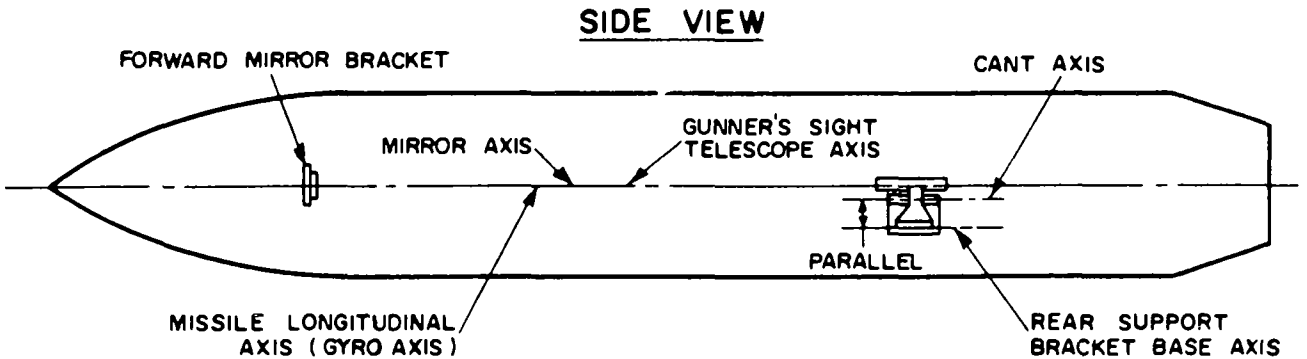
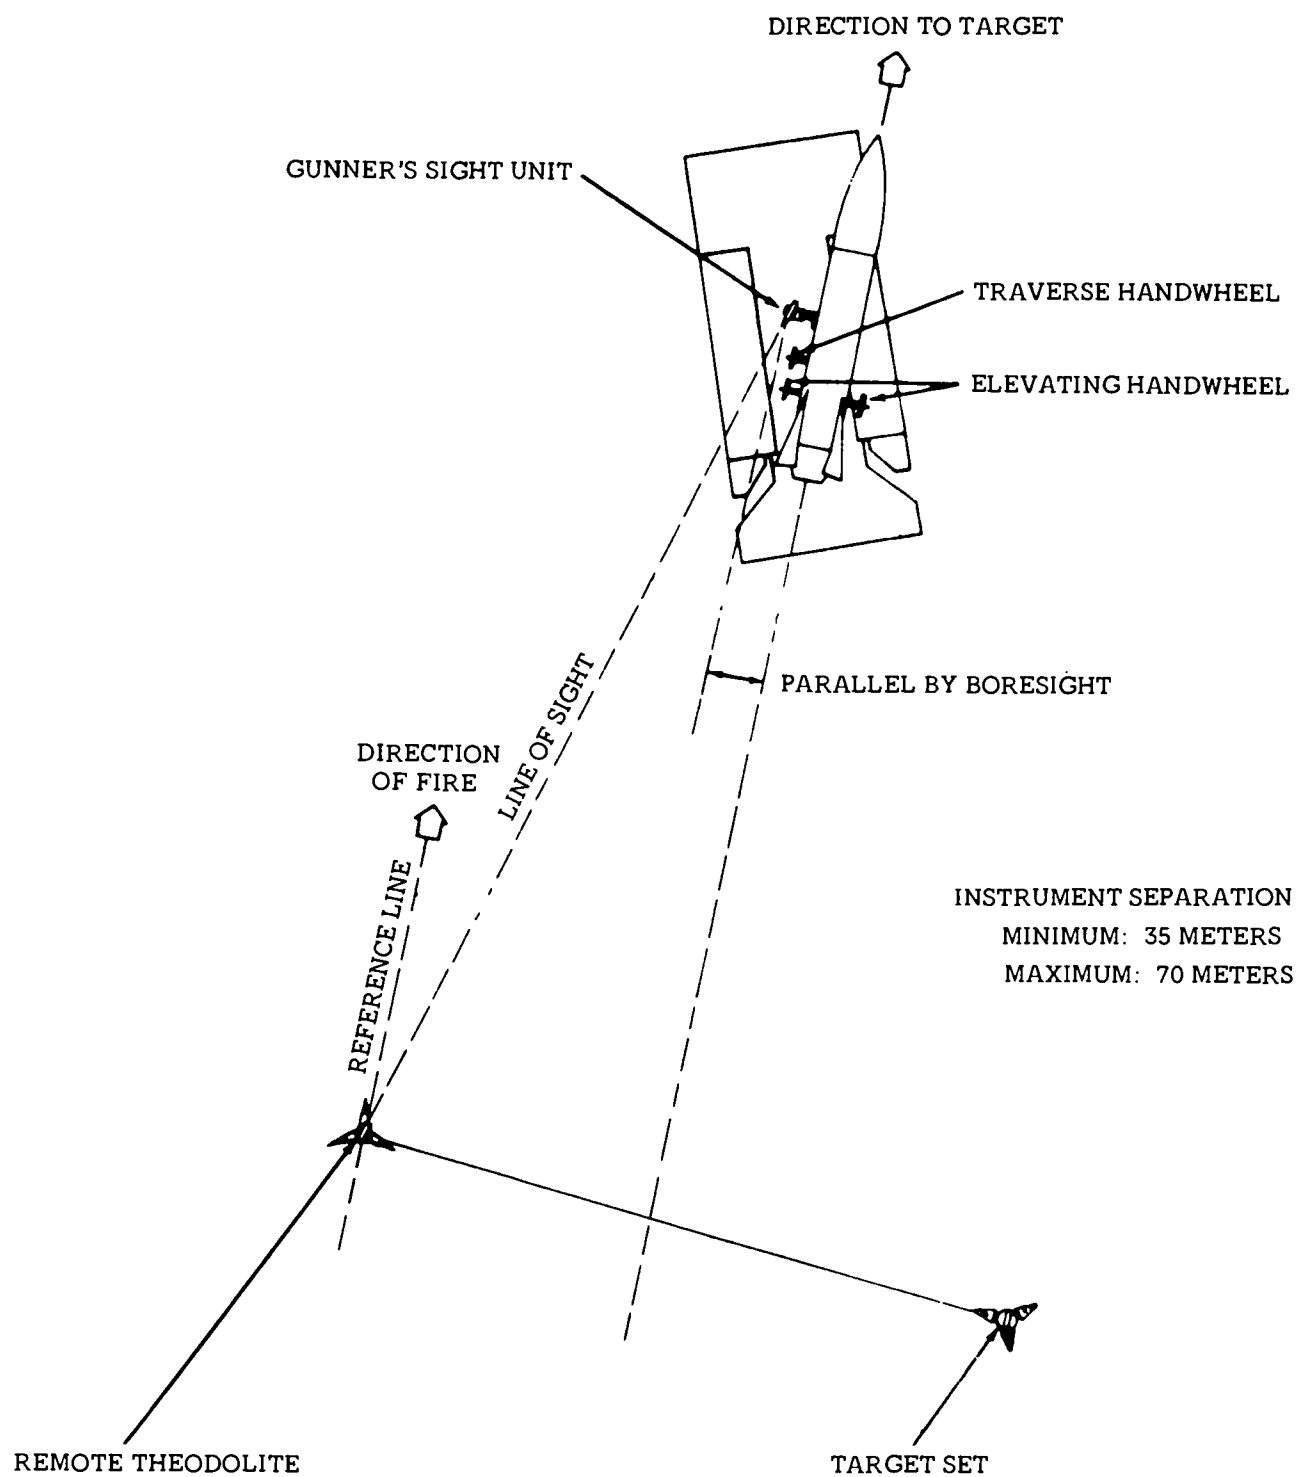
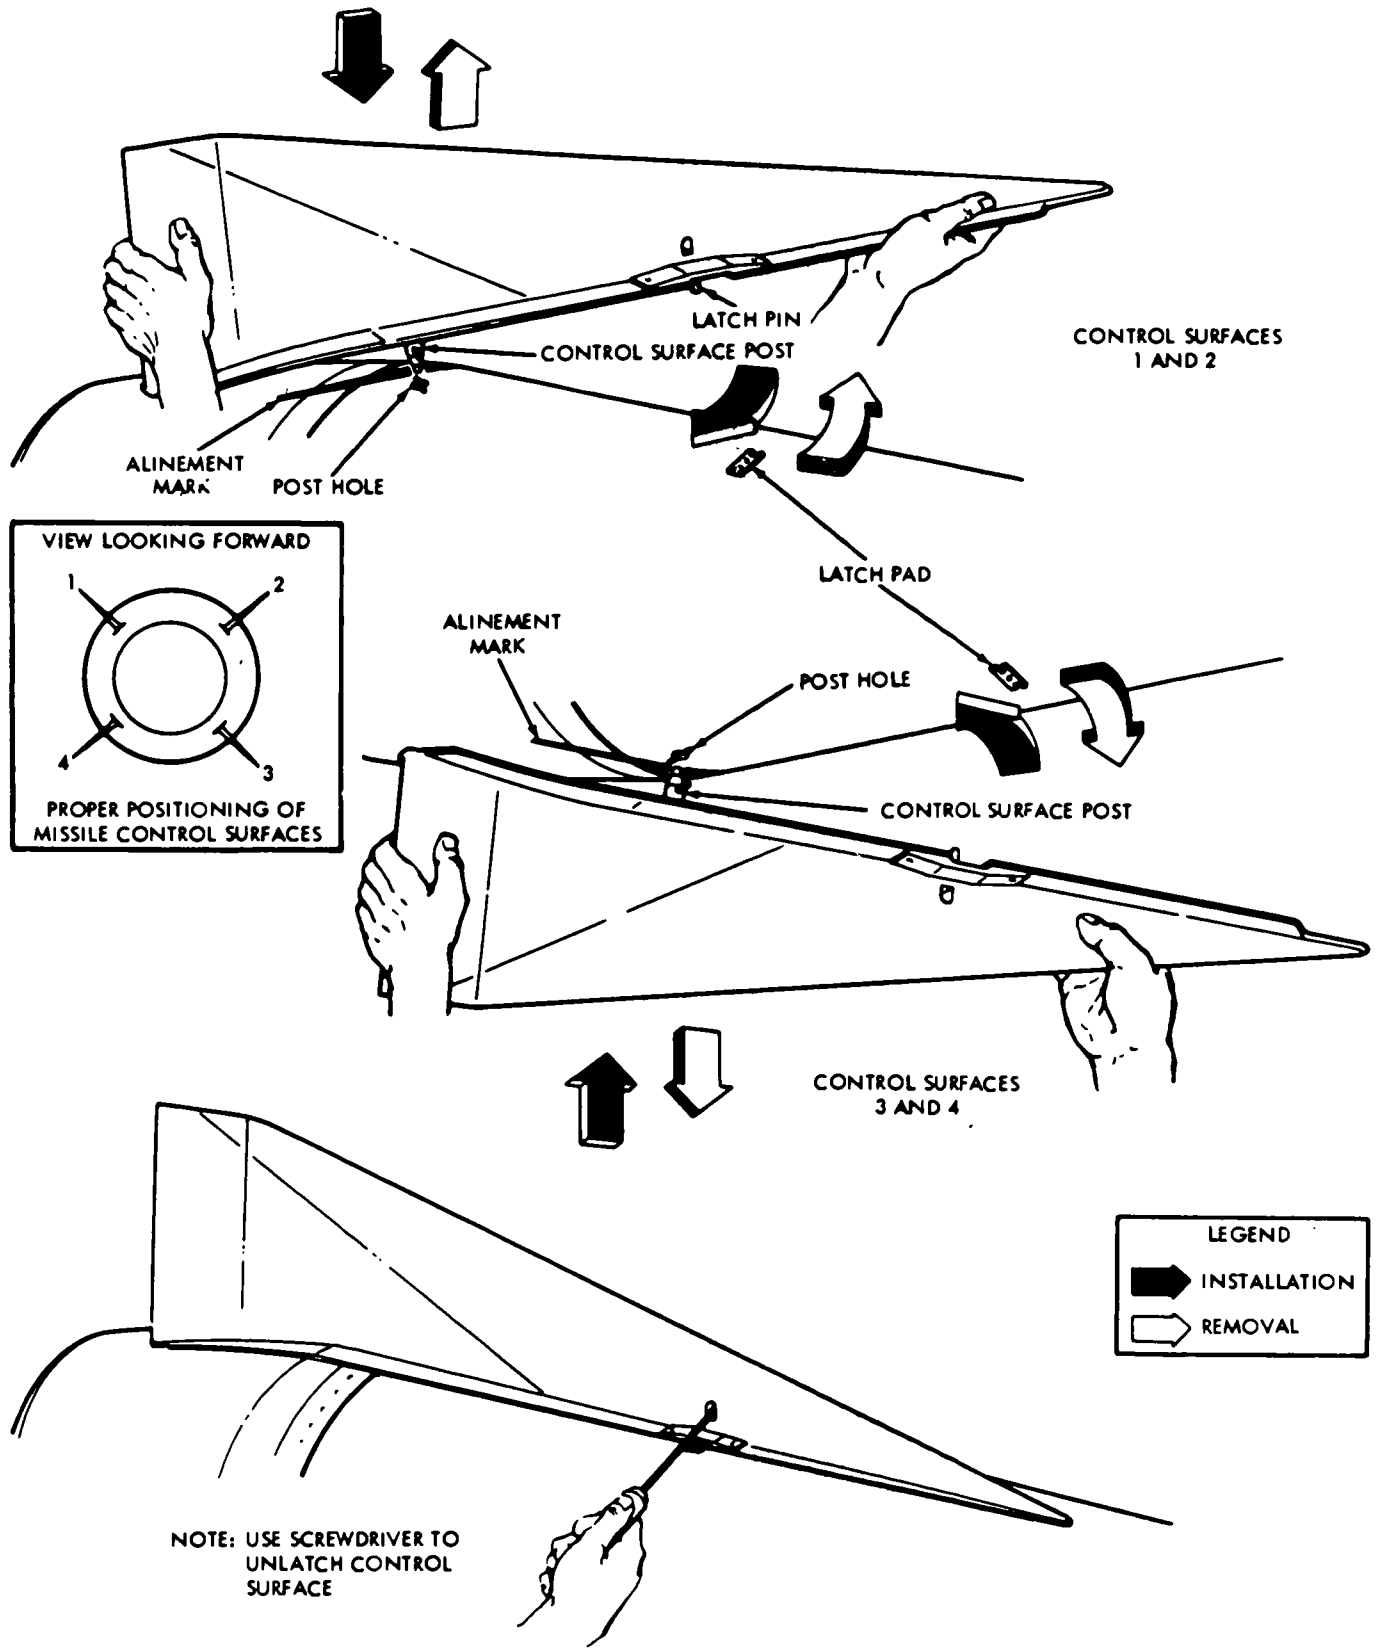

Figure 3-9. Lance missile in boresighted condition.
Figure 3-10. Sighting and laying scheme.
Figure 3-11. Control surface installation and removal.
a. For task lists concerning individual duties during emplacement, through march order, see tables 3-8 through 3-13. Figure 3-8 illustrates firing position arrangement, figure 3-9, missile boresight, figure 3-10, sighting and laying scheme and figure 3-11, control surface (fin) installation and removal. For task lists concerning individual duties during multiround (rate-of-fire) missions, see table 3-18.